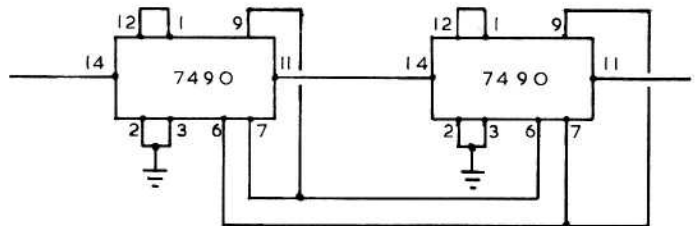
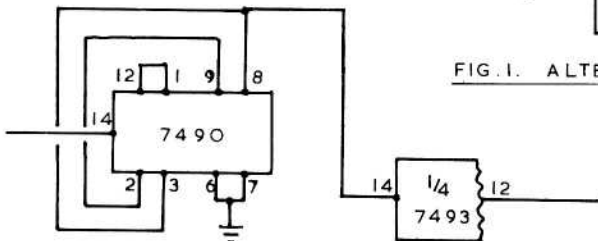

FIG. 1. ALTERNATIVE $\div 23$ CIRCUIT
FIG. 2 ALTERNATIVE $\div 12$ CIRCUIT
The article on the SSTV frequency standard in C Q - T V 85 had one or two minor errors in the diagram - sorry about this, but these things do happen! Please amend Fig. 2 on page 18 as follows:
2. Outputs for 1200Hz and 2300Hz should be from pin 12 in each case. My thanks to Arthur Critchley for pointing this out. He also suggest that an economy can be effected by using a modified *23 stage that dispenses with the 7410 as shown in Fig. 1. This works by detecting $20 + 2$ and resetting to 99, the next pulse then resets to 00 and thus gives a count of 23. He also suggests that if you wish to reduce the number of types of I.C. you can use a 7490 as a *6 and then use the spare *2 in the 7493 to replace the 7492. See Fig. 2 for this arrangement.